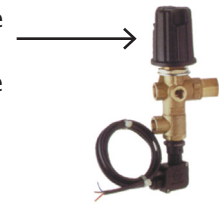

Figure 6
2. Replace nozzle and restart system. Pressure is set at factory. Make adjustments at handle on regulating unloader valve if needed. (Fig. 6)